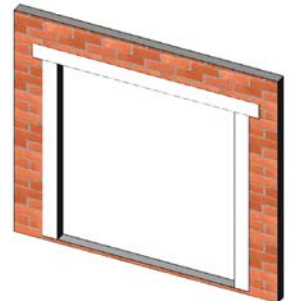

Figure 34:
3. Finally, at the head, embed the flashing into the sealant on the mounting flange and fasten into place. The flashing paper should be cut sufficiently long enough to extend past the flashing paper at each jamb by at least 3 in (Figure 34).